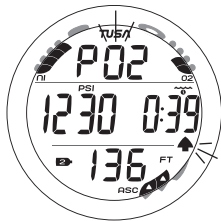
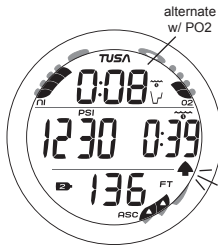

Fig. 89A - HIGH PO2 MAIN
Fig. 89B - HIGH PO2 MAIN
- > The graphic PO2 and Up Arrow icon will be displayed flashing on the Main (Fig. 89A) until the Audible is silenced, then the graphic PO2 will alternate with NDC time (Fig. 89B) until PO2 decreases 0.2 (ATA) below the alarm Set Point.